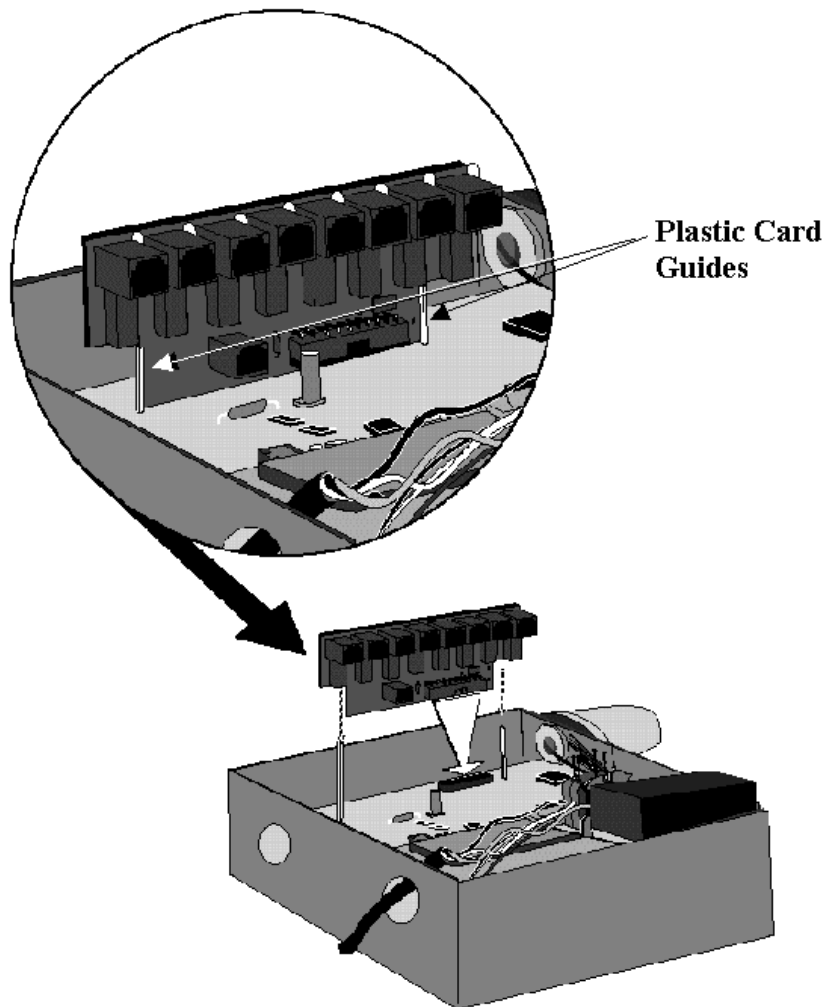

Figure A-1. Sliding the Module into the Card Guides
5. Insert the Module into the card guide slots and slide it down until the male connector engages fully into the female connector on the OMEGA baseboard (see Figure A-1). This installation can only be made one way. If you are not successful with your first try, turn around the Module and try again.